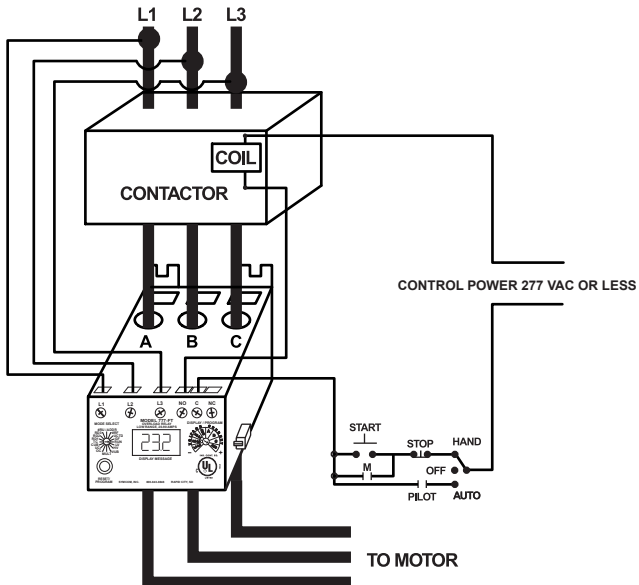

FIGURE 1: TYPICAL WIRING DIAGRAM FOR 26-90 FLA
- 2.1 For amperages from 26-90 amps, insert the motor conductors from the top of the unit through the holes marked ‘A’, ‘B’, and ‘C’. Make certain that the conductor through each hole corresponds to the right motor conductor (i.e. the ‘A’ phase conductor should go through the ‘A’ round hole). See Figure 1 for a typical wiring diagram.